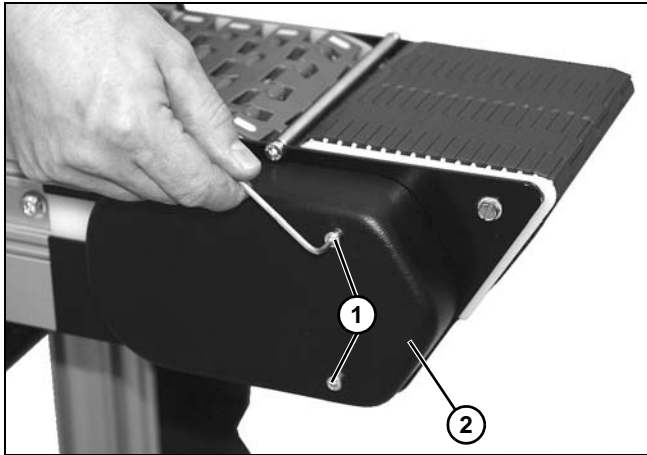

Figure 110
1. Remove two hex head screws (**Figure 110, item 1**) and cover (**Figure 110, item 2**) from power transfer assembly.